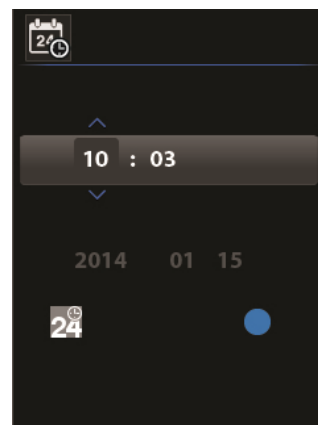
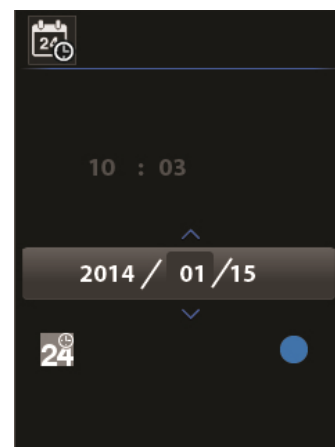

Fig 9-9 Setting the Time
Fig 9-10 Setting the Date
2. Press  to open the DATE/TIME sub-menu. The TIME and DATE fields will appear with the 24-Clock ON-OFF selector. The selected row will be highlighted as shown in Fig 9-9 and Fig 9-10. Use the arrow buttons to navigate from row to row.